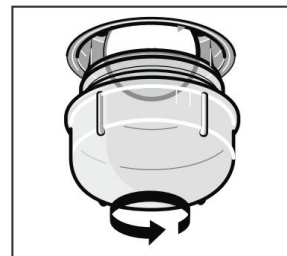

Figure 5
2. Turn the glass cover counterclockwise. (Figure 5)